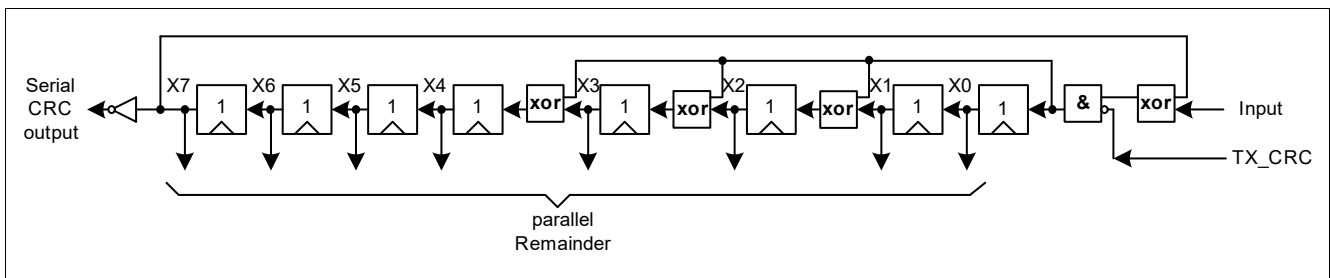

Figure 4-5 Fast CRC polynomial division circuit
- Generator-Polynomial: $X^8+X^4+X^3+X^2+1$, but for the CRC generation the fast-CRC generation circuit is used (see Figure 4-5).